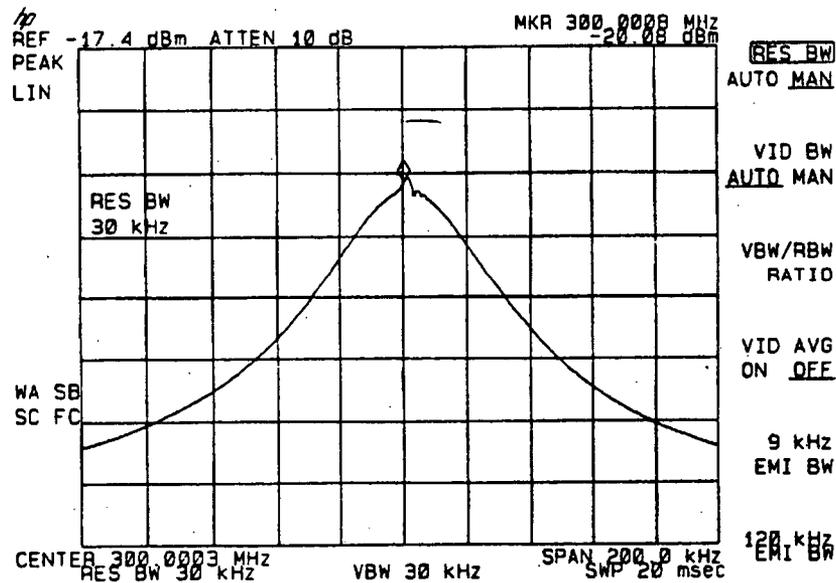

Figure 2-10. Crystal Symmetry and Centering
9. Adjust A13C54 CTR for minimum signal amplitude. Then adjust A13C38 SYM and A13C54 CTR for a centered and symmetrical bandpass response as shown in Figure 2-10.